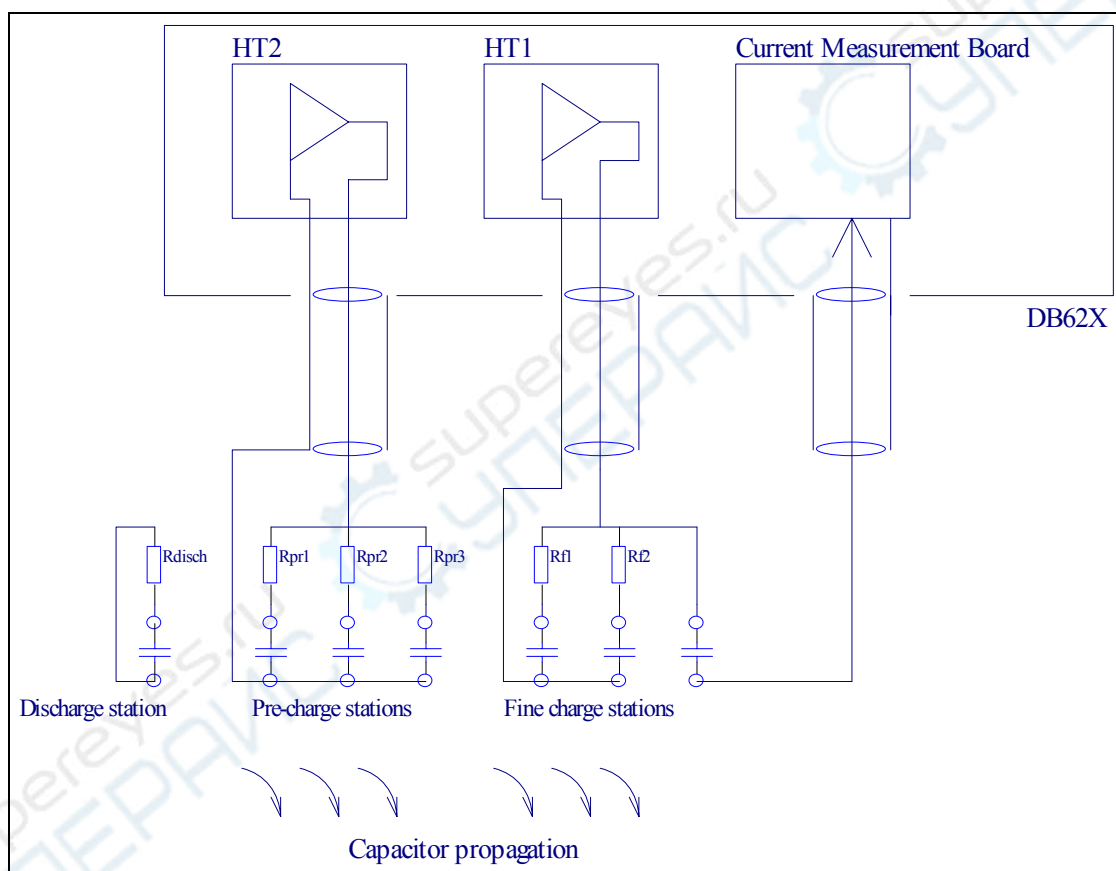

Fig. 6.5.1 Example of IR testing set-up
Fig. 6.5.1 shows the set-up for TH2684 with two HV supplies, one for precharging and one for fine charging and measurement.
For charging foil capacitors with post charge properties it is assumed that the capacitor is charged to the full test voltage already at the first station. The first resistor is given by (1), the last resistor (Rpr3 in figure 6.5.1) should match the following fine charge resistors (see later). The intermediate (Rpr2 in figure 6.5.1) resistors should have values between 10-20 times Rpr1 and Rpr3 .
The fine charge resistors should match the input resistance R_i of the current input amplifier. In TH2684/TH2684A IR tester, this resistor can be switched to either $10k \Omega$ or $1M \Omega$. In figure 6.5.1 only two fine charge stations are shown, in many cases more than 10 stations are preferred.
Example (figure 6.5.1):
Example (Figure 6.5.1):